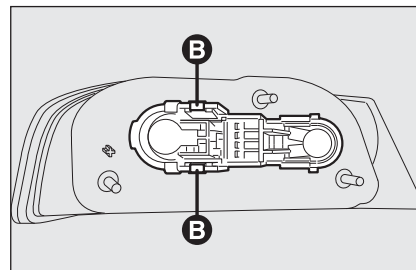

fig. 39
- remove the bulb holder unit by pressing the retaining tabs **B-fig. 39**;
- refit the bulb holder unit securing it properly using the retaining tabs **B-fig. 39**;